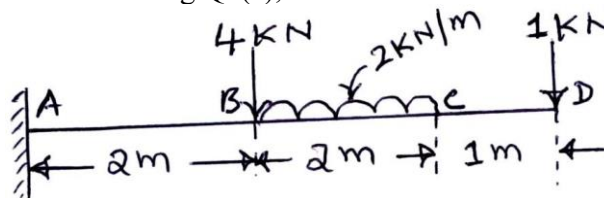

Fig.Q5(c)
- c. For the cantilever beam shown in Fig.Q5(c), draw shear force and bending moment diagram.